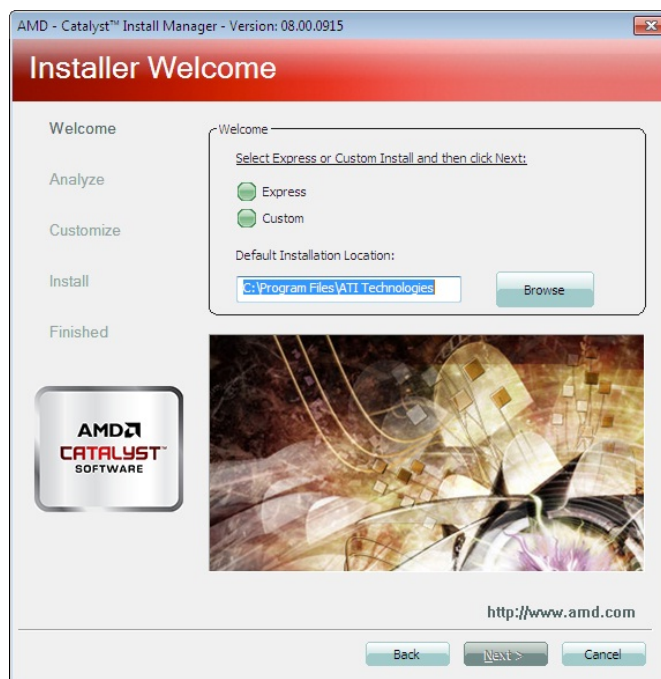

Figure 6-3: Select Express or Custom Install Screen
Step 6: The screen in **Figure 6-3** appears.